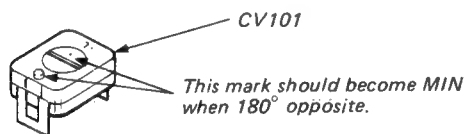

Fig. 4-2
- Adjust CV101 so that minimum as shown in Fig. 4-2.